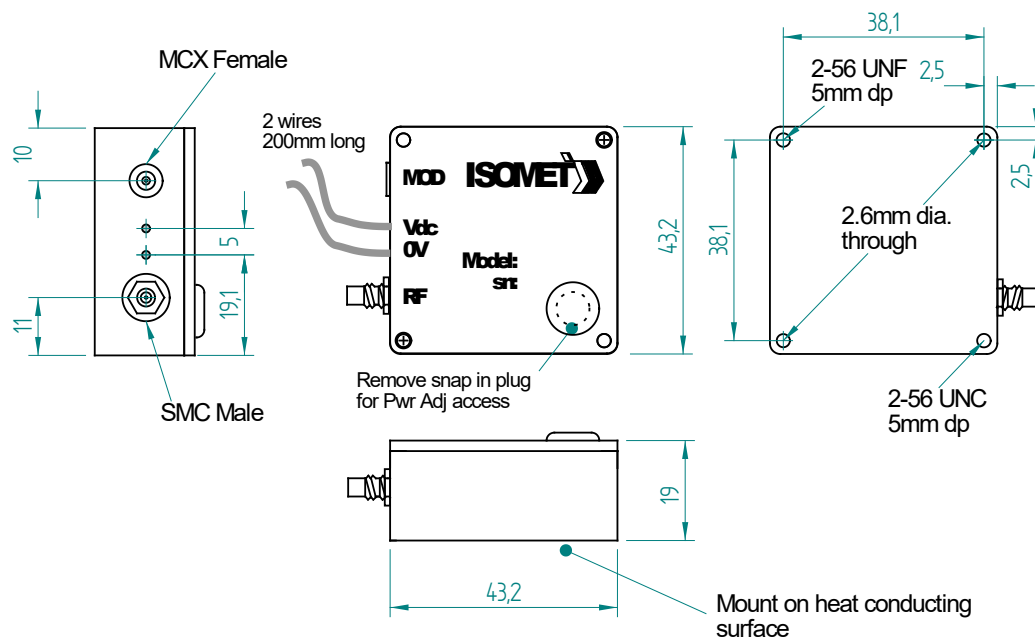

Figure 1: Driver Installation
- 3.1 Install the Driver on a heat sink as shown in figure 1. Use heat conducting compound between the Driver and mounting face and the heat sink.
- 3.2 With no d-c power applied, connect the positive (+) DC voltage to the red wires shown in figure 1. Connect the 0V or ground connection to the black wire
- 3.6 If fitted, remove the PWR ADJ snap-in plugs from the driver case (see fig 1).